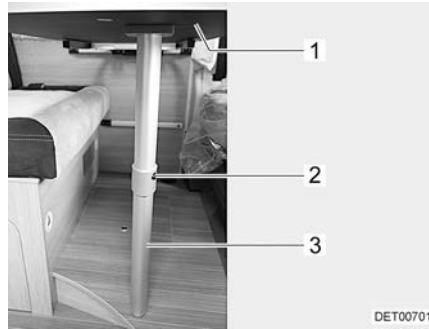

Fig. 84 Bed foundation
- Slightly raise the front of the table top (Fig. 84,1).
- Press the release knob (Fig. 84,2) and fold the lower part of the fold-out leg (Fig. 84,3) by 90°.